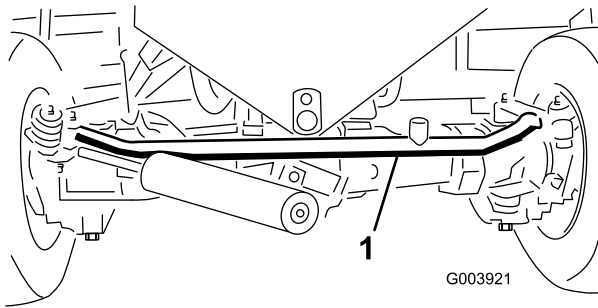

Figure 66
3. Loosen the clamps on both ends of the tie rod (Figure 66).